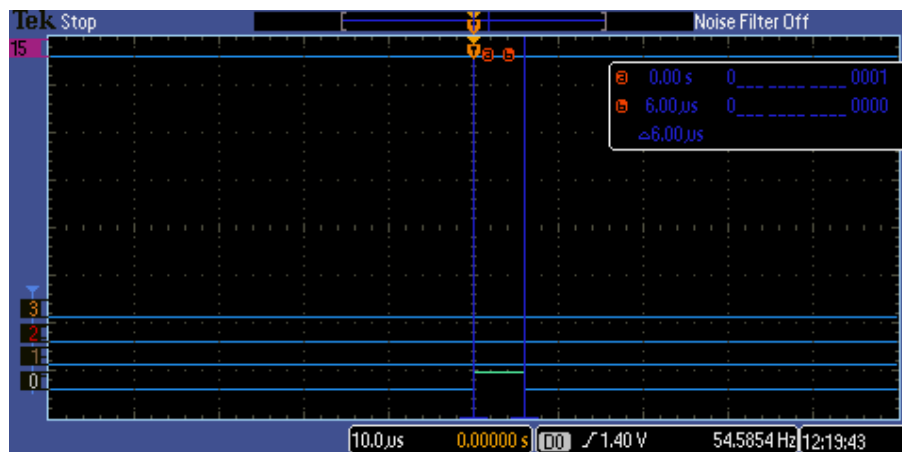

Figure 1. Profile of timer2 ISR
the ISR using a logic analyzer as shown in Figure 1, measuring the ISR to take 6.00  $\mu$ s.
- 3) We measured the time to execute the timer2 ISR by setting a GPIO port pin high at the start of the ISR and low at the end and then profiling it with a logic analyzer (Figure 1). The advantages of these types of measurements is that they are very minimally intrusive, but require equipment like a logic analyzer or oscilloscope.